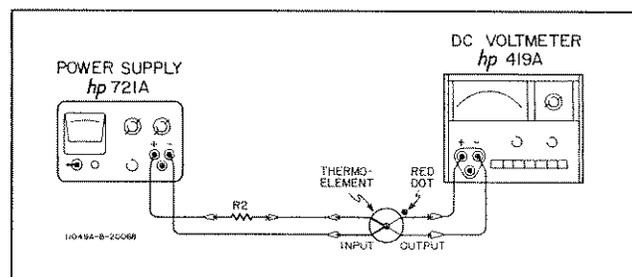

Figure 7. Selection of R2
29. Figure 7 on the next page shows the test setup for selecting R2. The power supply generates a known input, and the dc voltmeter monitors the thermoelement output. R2 is selected to adjust the thermoelement output to 6.5 mV with 90% full scale input. Proceed as follows.